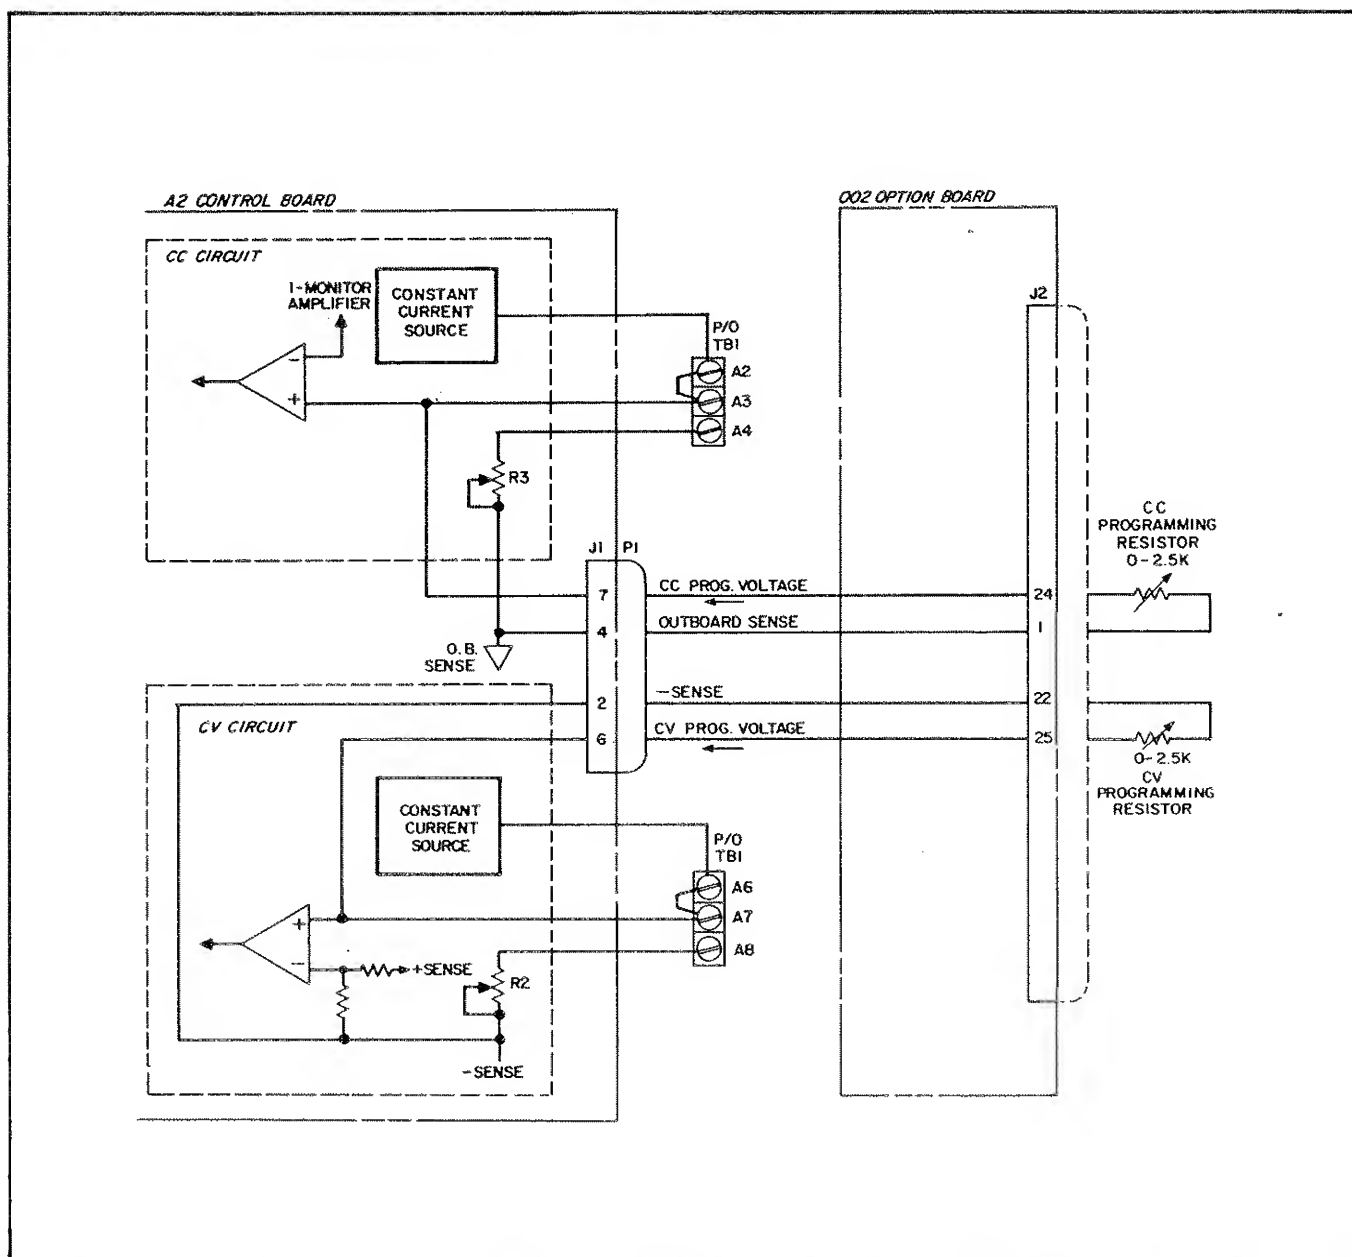

Figure A-3. Resistance Programming of Output Voltage And/Or Current
**A-21 Resistance Control (Figure A-3).** It is necessary to disable the front panel voltage and current controls during resistance programming. This is accomplished at the rear panel terminal strip by disconnecting the jumper between A4 and A3 (CURRENT control) and the jumper between A8 and A7 (VOLTAGE control).